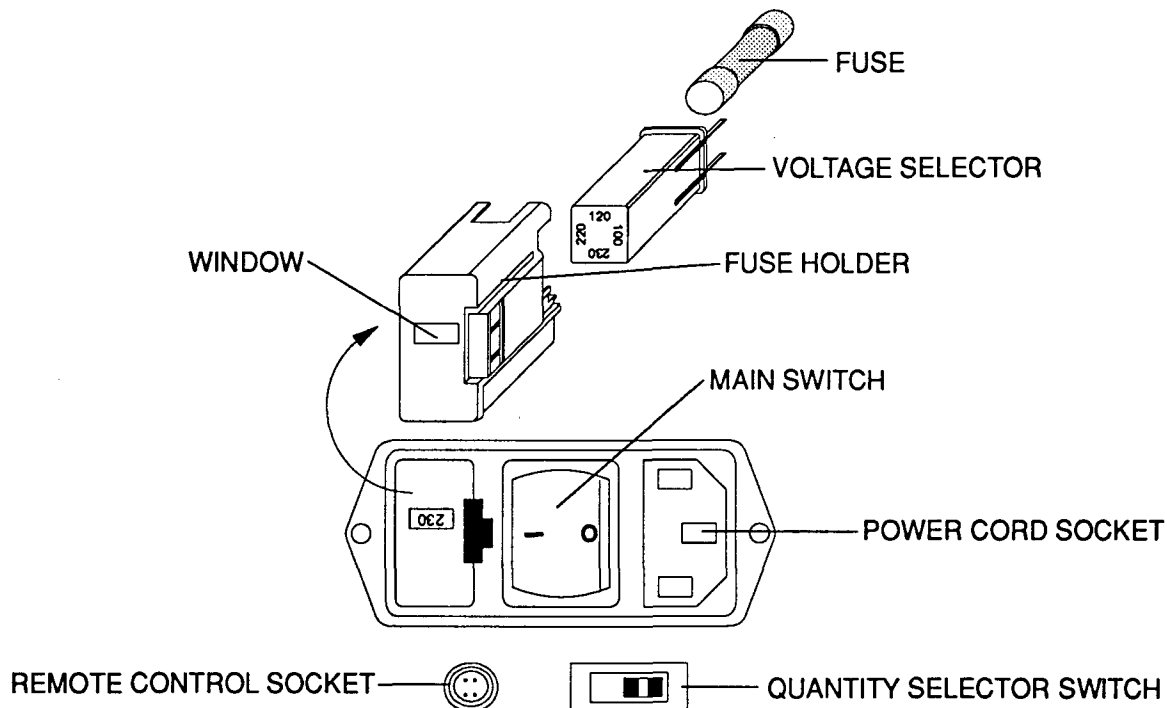

figure 4-1
2. Switch on the AUTOMIXER II Plus by pressing the MAIN SWITCH at the rear side of the AUTOMIXER II Plus (figure 4-1). Check the following:
- The POWER-ON Indicator (C) is energized.
3. Press the WATER VALVE SWITCHES. Water enters the tanks. The water stops when the quantity (depending on the setting of the QUANTITY SELECTOR SWITCH figure 4-1 20L / 5 Gallons 40L / 10 Gallons) is reached. It is not necessary to wait until the selected level is reached. You can stop the water flow at any time.